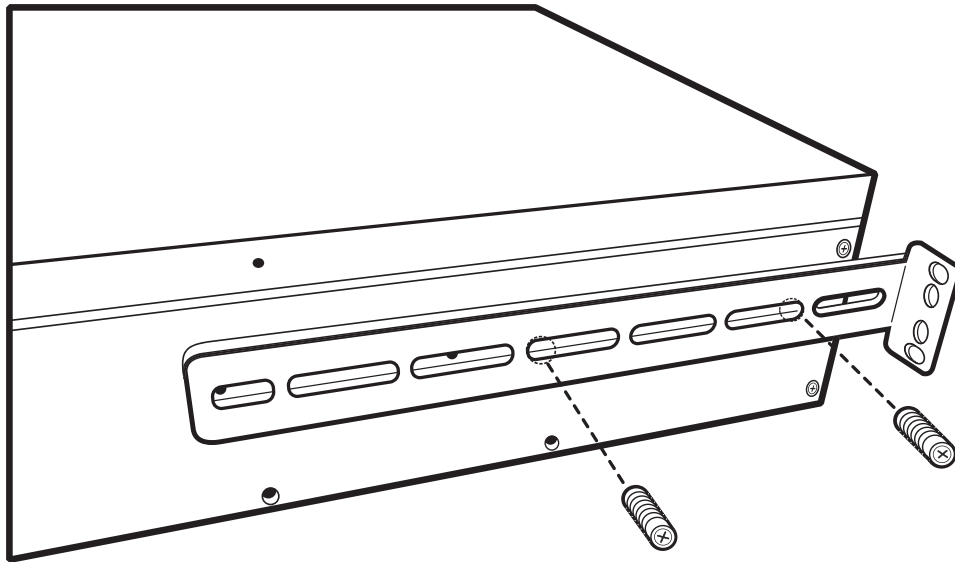

Figure 2.7 Attaching the Rear Brackets to the 7800-CTRL
1. Install the fixed brackets on the 7800-CTRL, adjusting their position in accordance with the equipment rack depth. See figure 2.7 on page 16.